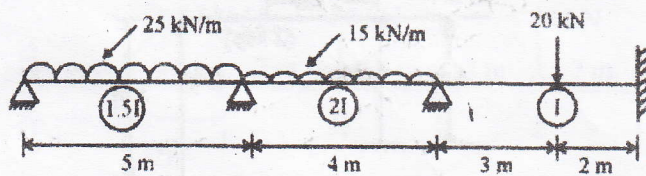

FIG 6
- (b) Analyse the continuous beam shown in fig 6 by stiffness method. Draw bending moment diagram and elastic curve.